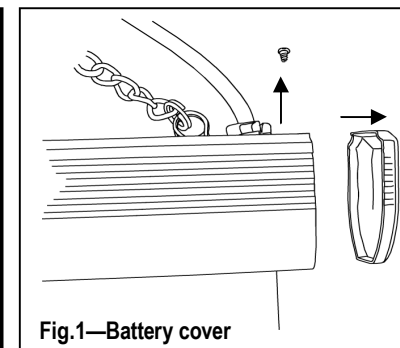

Fig.1—Battery cover
- 4) Remove the battery cover—see fig.1&2 inside.
- 9) Remove the battery cover and connect the battery pack. See fig. 1&2 opposite. Close the battery cover.